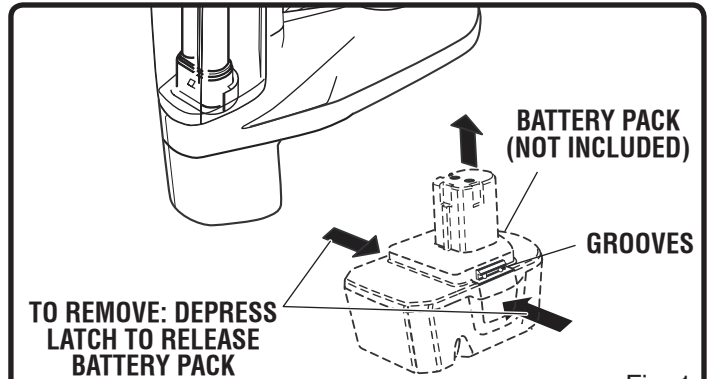

Fig. 1
■ TO INSTALL: Align raised ribs on battery pack with grooves on bottom of fluorescent light, then install battery pack to fluorescent light as shown in figure 1.